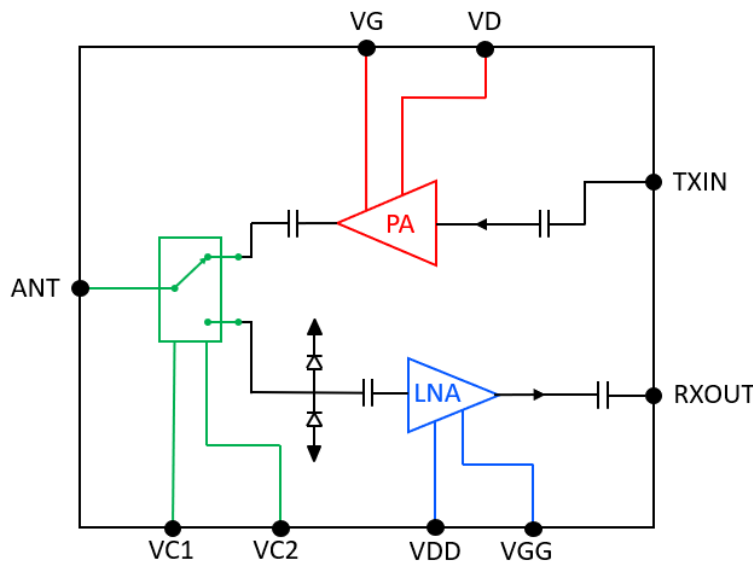

Figure 1. Functional block diagram of a typical FEM (QPF5002)
A typical FEM device will have an antenna port and a T/R switch to direct RF signals to the Transmit and Receive signal chains. Dual-channel FEMs that include a second T/R Switch/PA/LNA combination may be required to support multiple data streams. Figure 1 shows a typical functional diagram of an FEM (QPF5002). The device transmit channel is normally a power amplifier (PA), while the receive channel has a low noise amplifier (LNA). Many times the LNA may have a front-end limiter for stress protection. The switch will have controls to route the RF signals between the two channels. These control signals may be either received directly from a host control interface or buffered by a dedicated controller IC within the FEM for more complex functions.